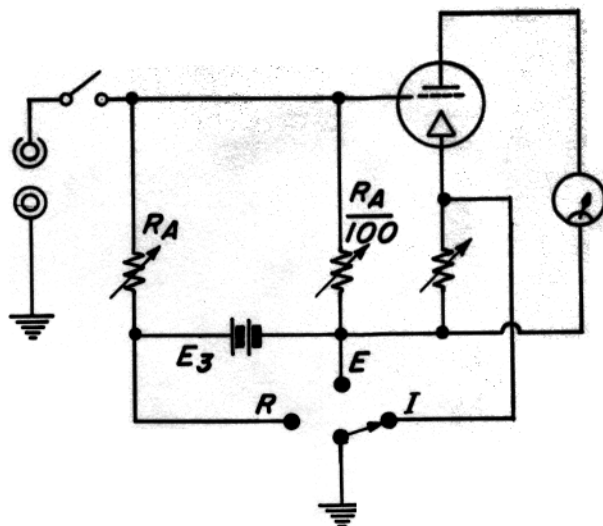

Figure 11. Check on Internal Resistance Standard
5.1 CHECKING INTERNAL RESISTANCE STANDARDS. When the MV-VOLTS-OHMS switch is set in the CHECK position, the instrument indicates the resistance of any higher RESISTANCE MULTIPLIER standard. This indication is given on the 90 OHMS scale. (See Figure 11.) The resistance of the standard R_A is given in terms of the standard two steps below it ($\frac{R_A}{100}$). The lower-resistance